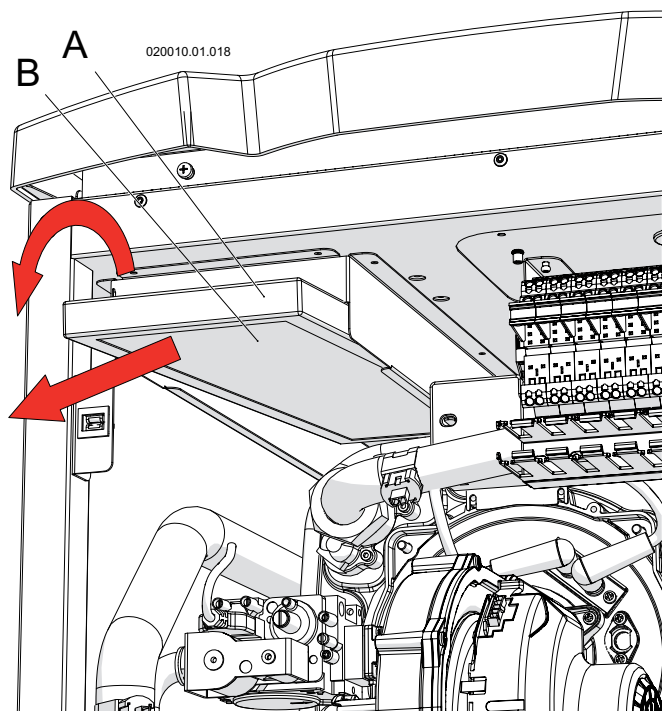

Figure 15-9 Remove the air filter “B”
2. pull down with a rotation the air filter “B” as per Figure 15-9